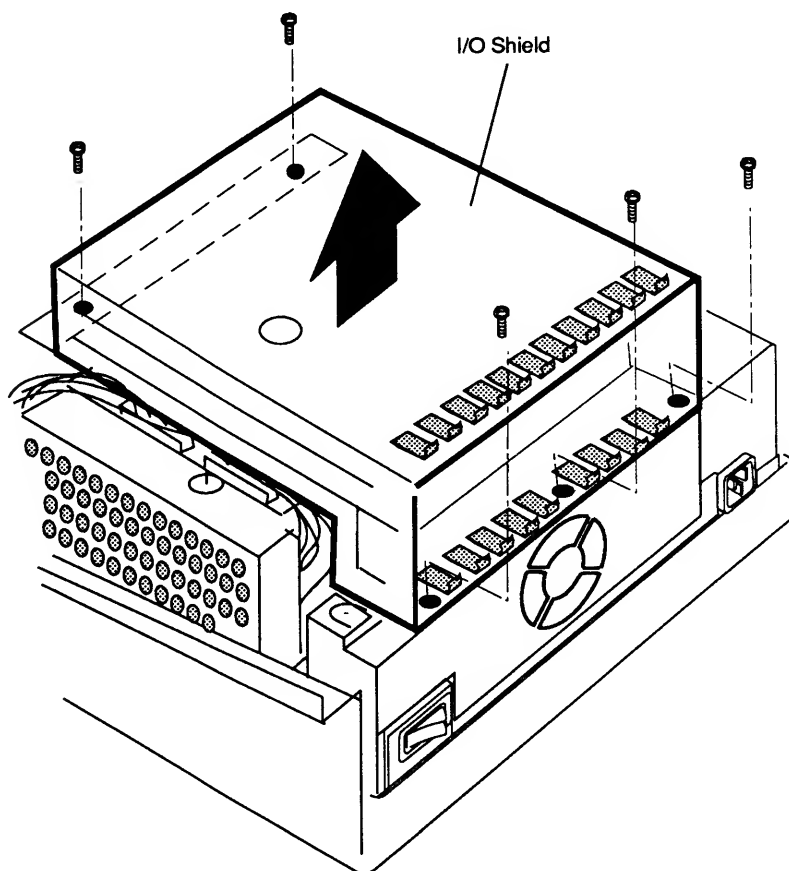

Figure 2-13 I/O Shield (LaserWriter NT, SC, and NTR)
2. Remove the five screws that secure the I/O shield to the printer chassis (**Figure 2-13**).
3. Remove the I/O shield and set it aside (**Figure 2-13**).